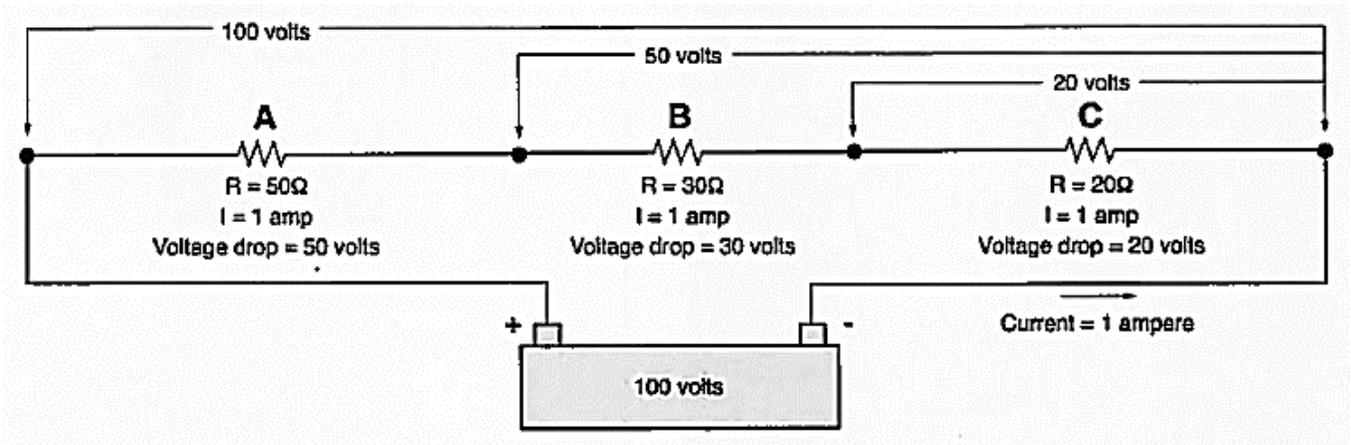

Figure 5.6: Voltage Drop
- 5-42 An example will help you understand this point. Suppose a conductive path consists of three sections, each having a different resistance. These sections are connected in *series* or end-to-end as shown in Figure 5.6. All the current in the path flows through each resistor.
- 5-47 For example, the potential difference across section A in Figure 5.6 is 50 volts, because the current is one ampere ($1 \text{ ampere} \times 50\ \Omega = 50 \text{ volts}$). If you calculate the potential difference across all three sections, and add the three results together, the total will equal the potential difference across the total path.